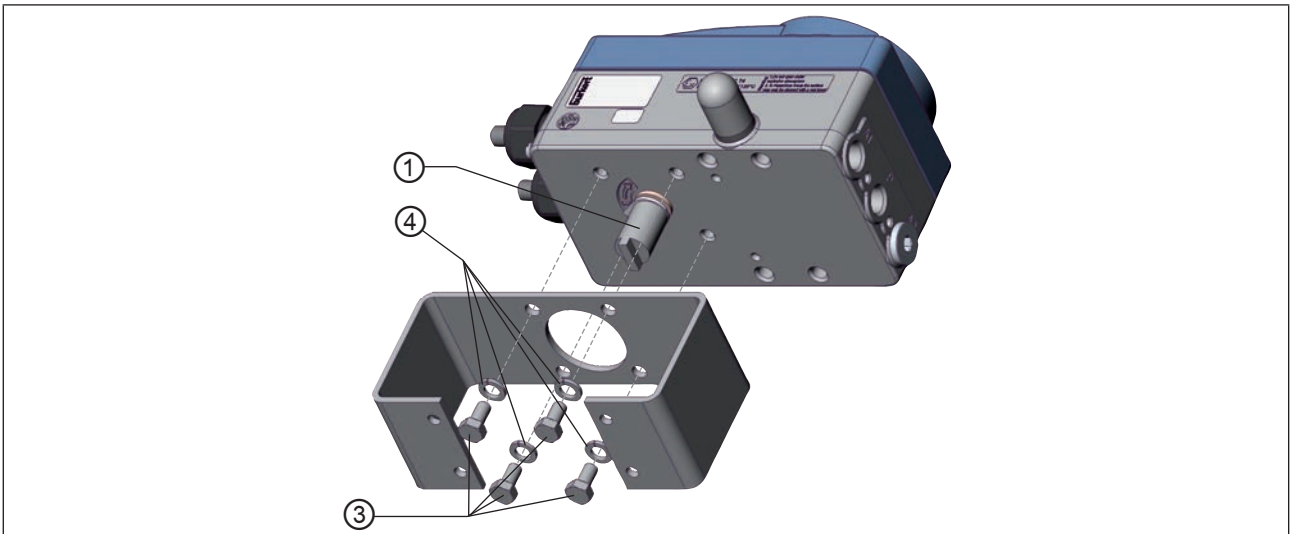

Figure 28: Attach assembly bridge (schematic representation)
→ Attach the assembly bridge to the positioner using 4 cheese-head screws ③ and circlips ④. (see "Figure 28").